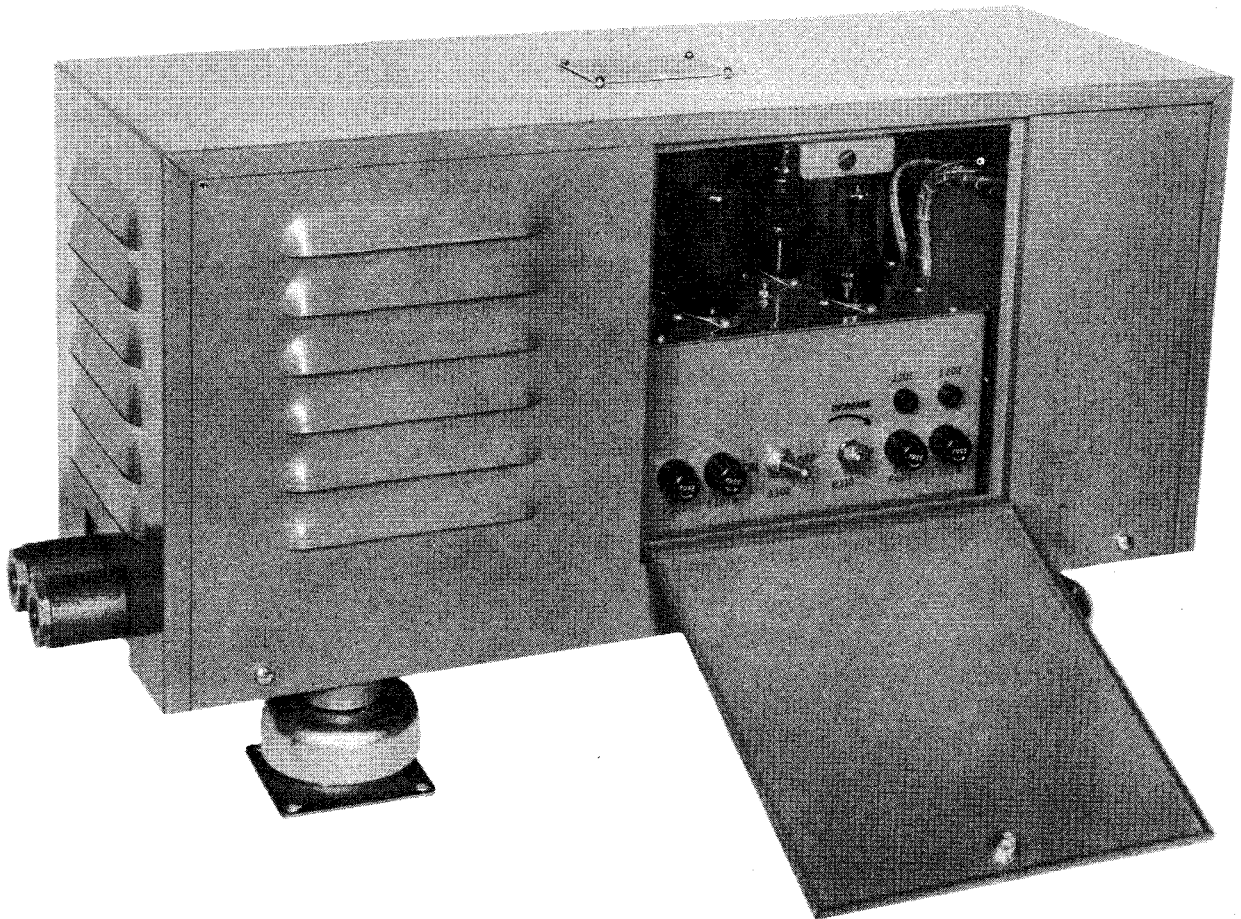

Figure 1-2 Power Supply PP-765/U Front View, Cover On, Door Open.
a. CABINET AND SUB-BASE.--The components of the Power Supply PP-765/U, are housed in a drip-proof rectangular steel cabinet. (See figure (1-1). Openings through the sub-base in conjunction with louvres in the ends and sides of the cover provide ventilation for heat dissipation. An access door which drops down in the front allows operator to reach the on-off switch, fuses and potentiometer control. (See figure 1-2). An on-off pilot light is provided in the front to indicate whether or not the unit is turned on. The sub-base, made of stamped sheet steel, supports the main components, brackets, and mounting plates required. The entire Power Supply is supported on four rubber shock mounts, each one with mounting flange drilled with four holes for permanent attachment to deck, table, shelf or other horizontal supporting surface.